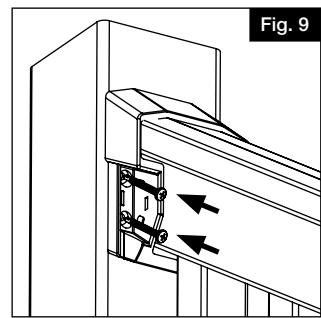

Fig. 9
- a. Mark all bracket holes. Pre-drill all bracket holes with $\frac{1}{8}$ " drill bit (Fig. 9).
- b. Drive screws through brackets into post using #10 x 1 $\frac{1}{2}$ " self-tapping square drive screws (4 per bracket) (Fig. 9).